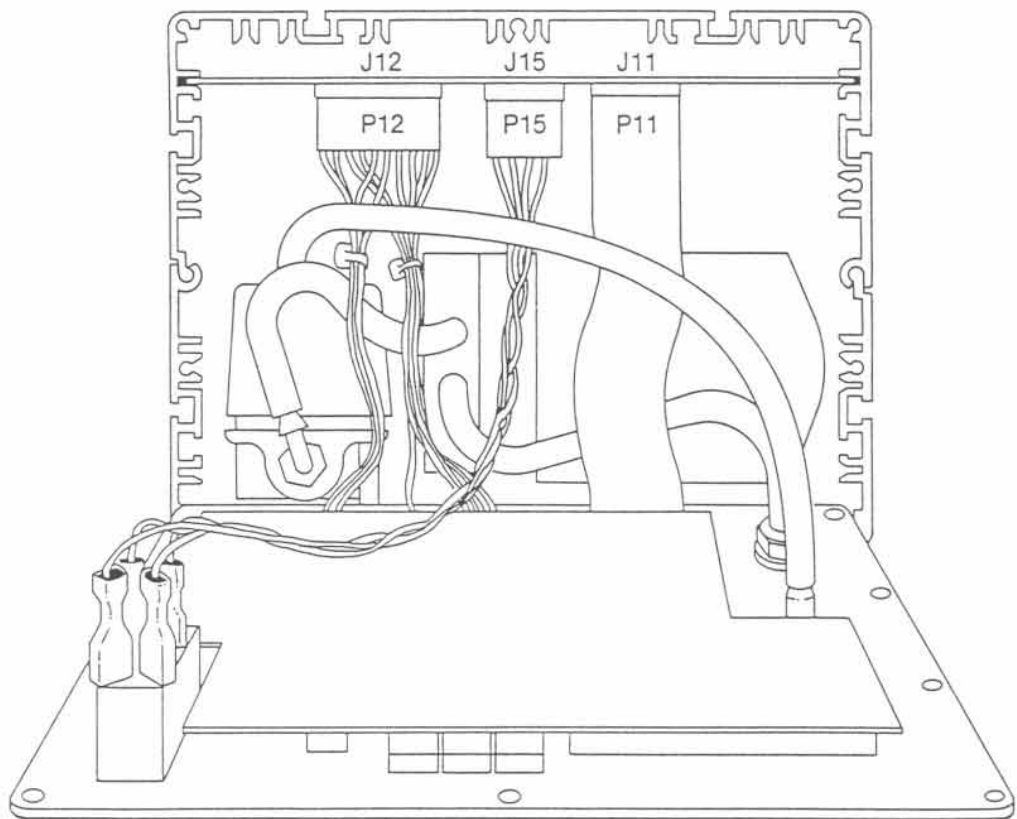

FIGURE 6. FRONT PANEL HARNESS & HOSE ROUTING
- b) When reconnecting plugs make certain that they are aligned and oriented properly (refer to figure 6, page 16).
- d) When reinstalling the Front Panel assembly, insure that the two plastic hoses are attached to the proper fittings and do not kink when the Front Panel is screwed down to the chassis. Refer to figure 6, page 16.
- remove End Cap Assembly and Glass Chamber (refer to Figure 6).
- using Tip Tool or needle nose pliers, disconnect the five (5) leads plugged into the Cord and Switch Assembly (refer to Figure 6). Remove defective heater Assembly from Handpiece.
- using Tip Tool or needle nose pliers, carefully plug the three (3) color coded leads of the new Heater Assembly into the color coded receptacles of the Vacuum Control Switch board.
- attach Heater Assembly to Handpiece using the previously removed screws, (NOTE: Make certain that the five (5) leads are against the Extractor Handpiece sides and out of the way. Visually inspect through Extractor Handpiece ports).